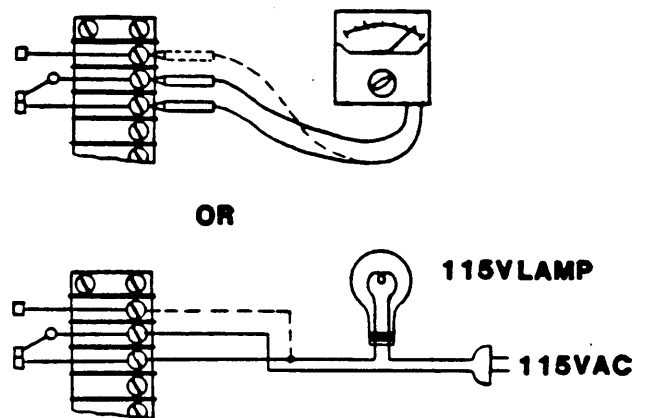

Figure 4-3
C. If the background noise is too high to hear the "click", use one of the methods shown in Figure 4-3 to determine if the relay contacts are switching.